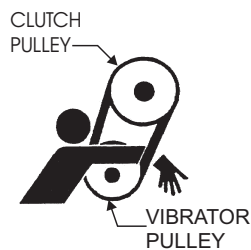

**Figure 25. Engine Air Filter and Element**
2. To clean or replace air filter loosen the wing nut on the air filter housing (Figure 25) remove the cover and take out air filter cartridge. If only cleaning of the air filter is desired blow through the air filter cartridge from the inside, moving a jet of dry compressed air up and down until all dust is removed.